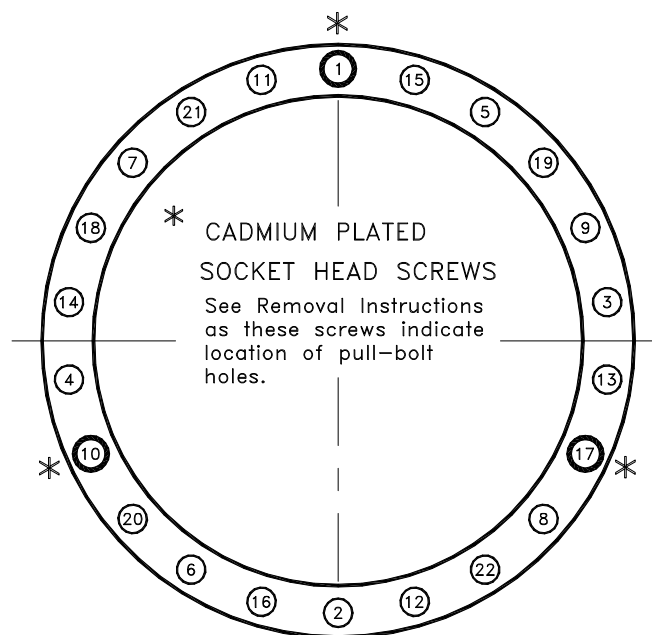

FIGURE 5
1. Install a ½"-13 N.C. eyebolt into the sheave and ensure a proper lifting device is attached to the sheave. Follow the same procedure as in "1" above under flywheel removal, using a 10mm hex wrench to loosen the ringfeder bolts. Follow the torque sequence for the sheave bolts (see figure 5).
The tightening sequence (see figure 5) must be followed for all three stages.
Allow assembly to set for 30 minutes, then recheck all screws at 90 ft. lbs. torque, following the tightening sequence in figure 5.